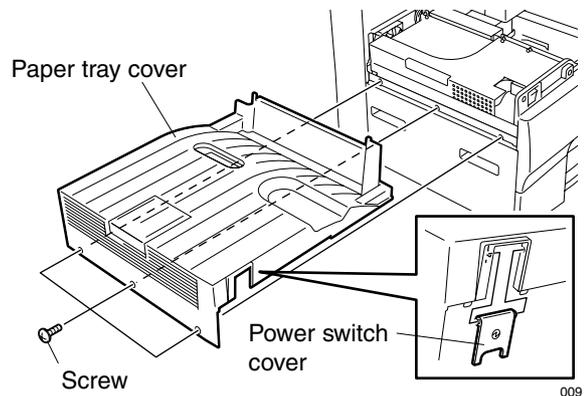

Fig. 2-6-11
2. Remove 3 screws holding the paper tray cover. (See Fig. 2-6-11)
6. Detach paper tray cover. (See Fig. 2-6-11)